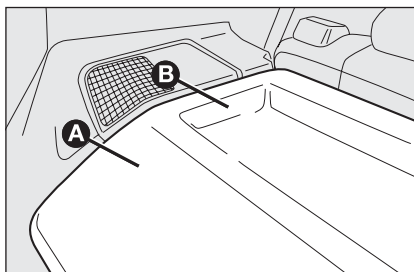
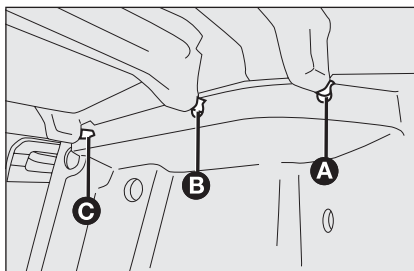
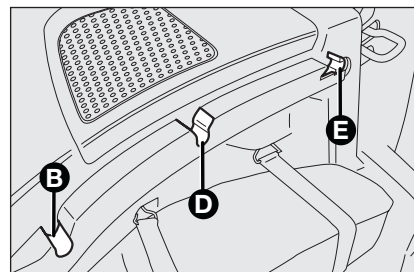

fig. 81
fig. 82
fig. 83
- open the rear swing doors and lift up the front section **A-fig. 81** releasing the pin **A-fig. 82** from the housing **B-fig. 83**;
- lift the rear section **B-fig. 81** releasing the pins **B** and **C-fig. 82** from the housings **D** and **E-fig. 83**;